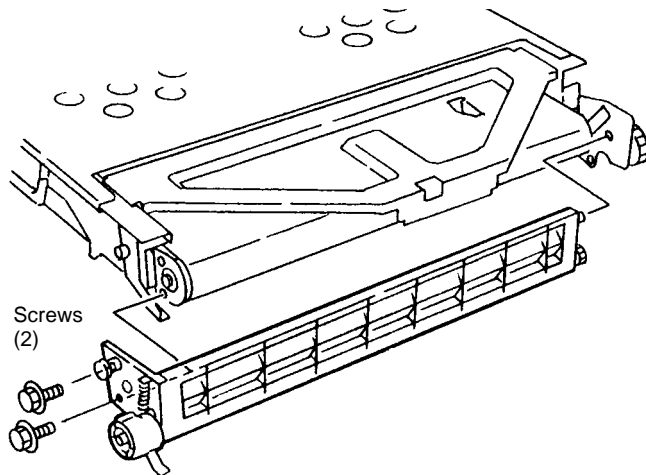

Figure 1 Removing IBT Cleaner Assembly
5. Remove Screws and remove IBT Cleaner Assembly (Figure 1).